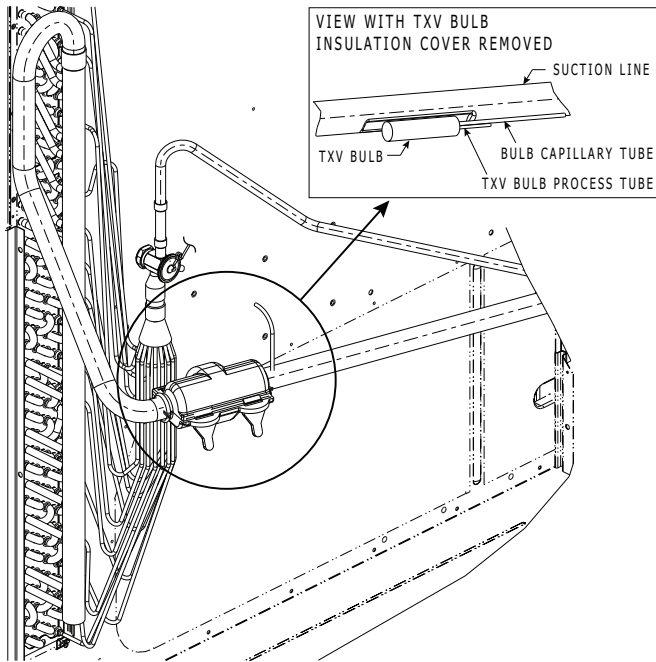

Fig. 26 — TXV Valve and Sensing Bulb Location
10. Attach TXV bulb in the same location where the original (in the sensing bulb indent) was when it was removed, using the supplied bulb clamps. See Fig. 26.